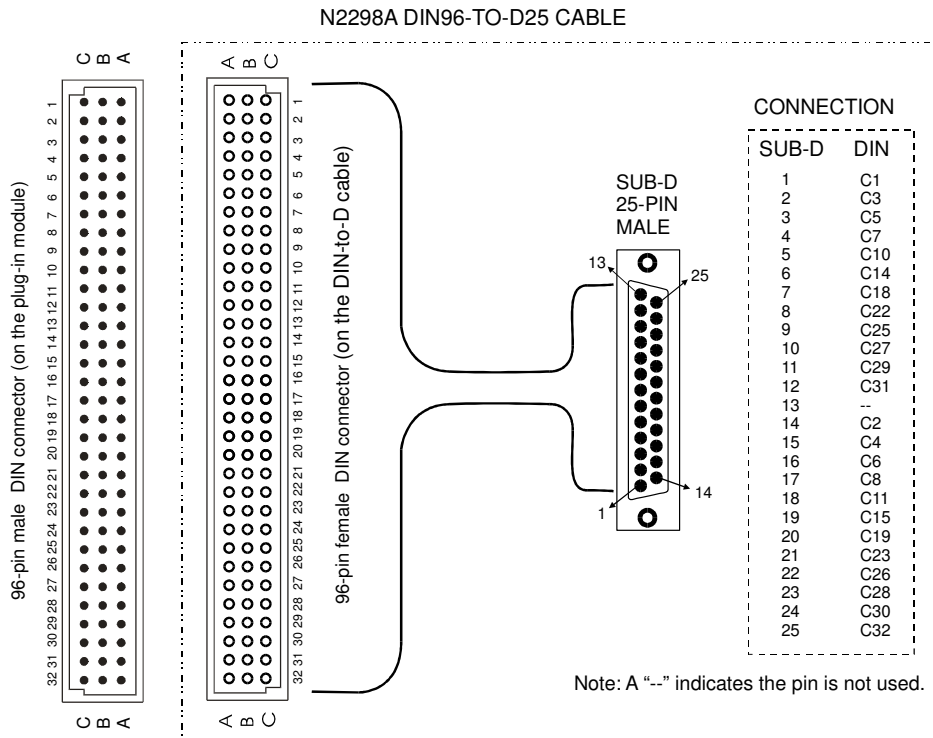

**Figure 6-27. Agilent N2297A Cable**
**Agilent N2297A** Figure 6-27 shows an Agilent N2297A. The wire gauge is 26 AWG (which meets UL AWM: 2464), the maximum voltage is 200 volts per wire. The connection between the 96-pin female DIN connector and the two 50-pin sub-D male connectors is also listed.